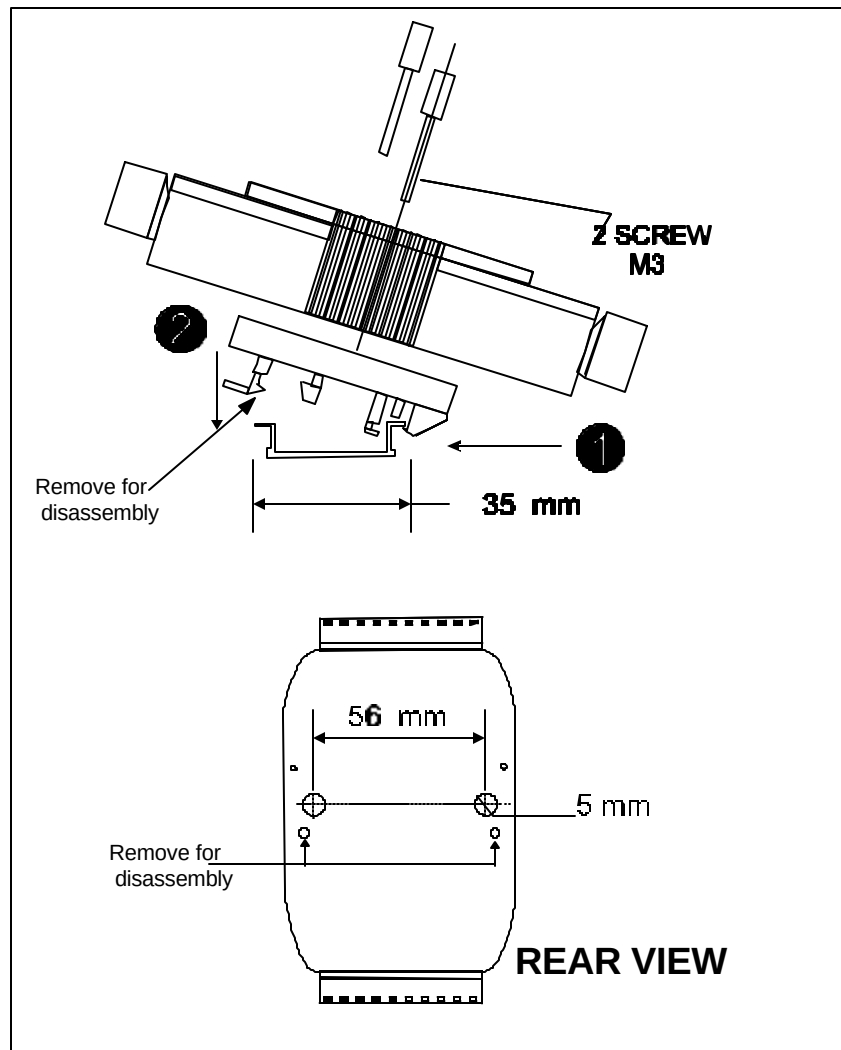

Figure 2.4--Disassembling the QTM-8524
Disassembly of the QTM-8524 is required to change the jumper settings. Please refer to figure 2.4 and follow the steps below to disassemble the module:
Antenna location is extremely important when installing your system. If possible, try to keep the antenna away from any obstructions. Objects and structures made of metal will reduce the efficiency of the antenna. Also, keep in mind that systems like cellular phone repeaters, other wireless LANs, and microwave ovens may interfere with the QTM-8524. If you encounter problems with one frequency, try changing the frequency at which your QTM-8524 modules are operating. Eight (8) different frequencies can be selected using jumper 2 on the module (see Figure 2.4 for a diagram of QTM-8524 jumper settings.).